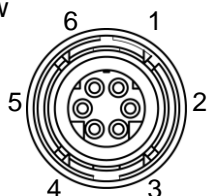

Fig. 8-6
①Dedicated cable (option) specifications (Fig. 8-6 and Fig. 8-7)